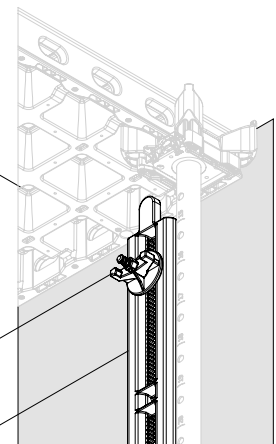

Fig. D1.05a
2. Place the DUO 82 wall holder (**26**) on the tie rod with the flange facing upwards and the flat side towards the wall. (Fig. D1.05a)